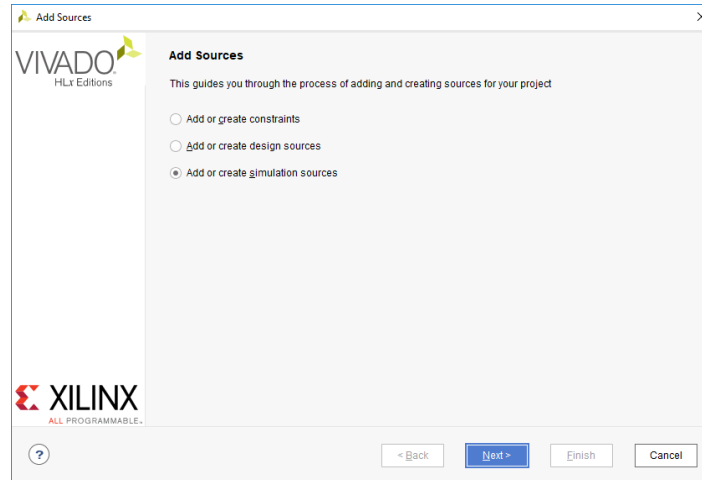

Figure 13. Selecting Simulation Sources option
- a. In the *PROJECT MANAGER* tasks of the *Flow Navigator* pane, click the *Add Sources*, select the *Add or Create Simulation Sources* option as shown in Figure 13, and click *Next*.